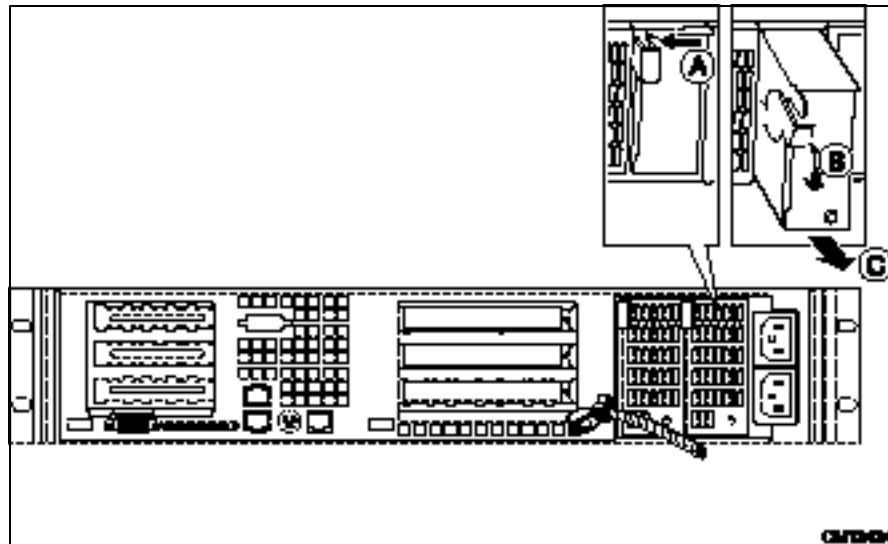

Figure 35. Replacing a Power Supply Module
1. Squeeze the module handle to depress the latch (Figure 35, A) that is the right side of the handle.
2. Rotate the handle down (B) while pulling the module toward you (C). As you pull the module out, support the module with your free hand.